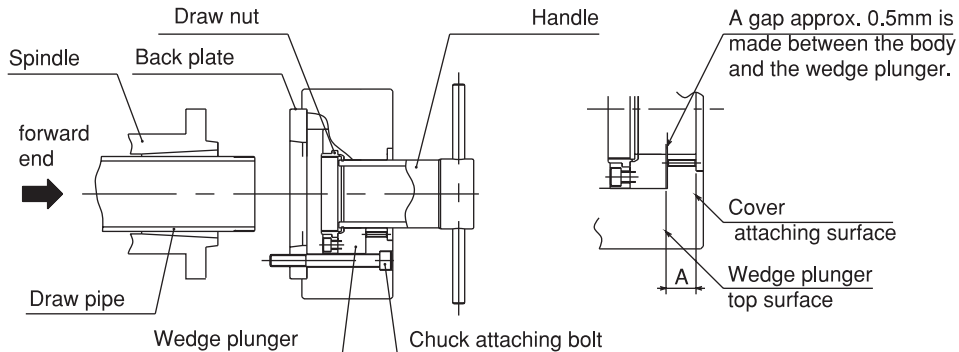

Fig.22
- The appropriate position of the wedge plunger at cylinder forward end is the position when the dimension A in Fig.22 becomes as shown in the table below.